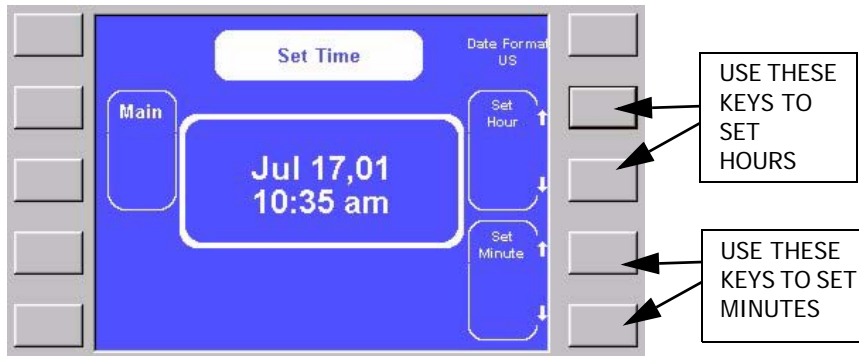

Figure 5-6. Setting the Time
1. Adjust the hours or minutes setting using the appropriate keys as shown in Figure 5-6, above until desired time is displayed.